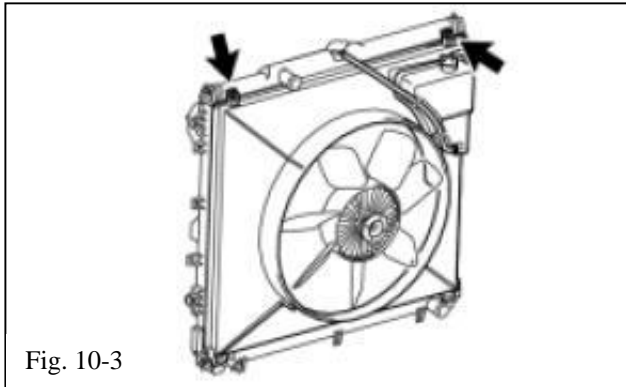

Fig. 10-3
- (f) Remove the 2 bolts retaining the fan shroud (Fig. 10-3).